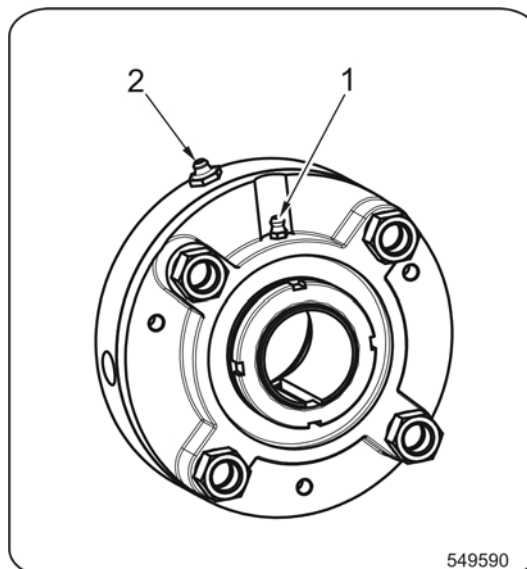
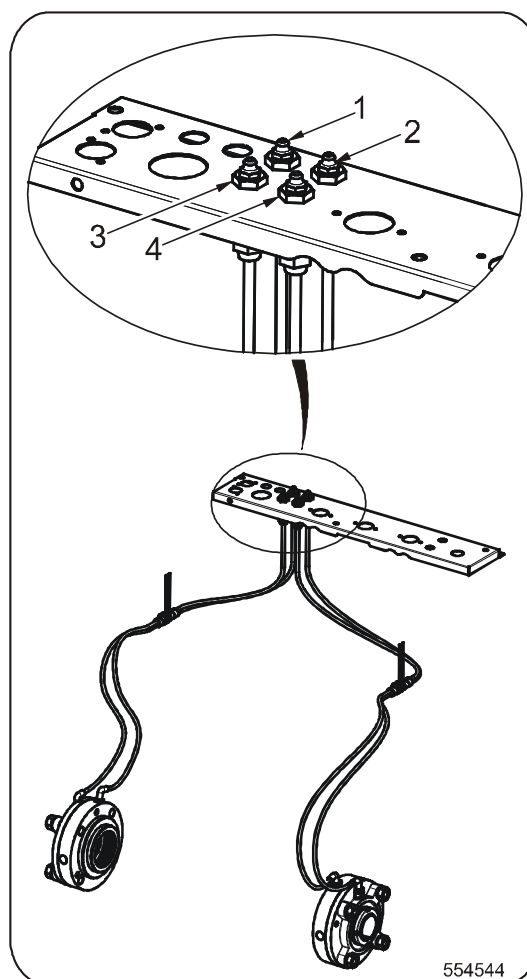

Figure 34 – Lubricator
Figure 35 – Lubricator on the upper panel – on request
- The standard location of lubrication points, see Figure 34 is under the covers on the left and right side of the machine.
- Bearing lubricator (1)
- Lubricator of sealing rings (2)
- On request – the lubrication points located on the upper panel – see Figure 35.
- left bearing lubrication - pos.1
- right bearing lubrication - pos.2
- left sealing ring lubrication - pos.3
- right sealing ring lubrication - pos.4